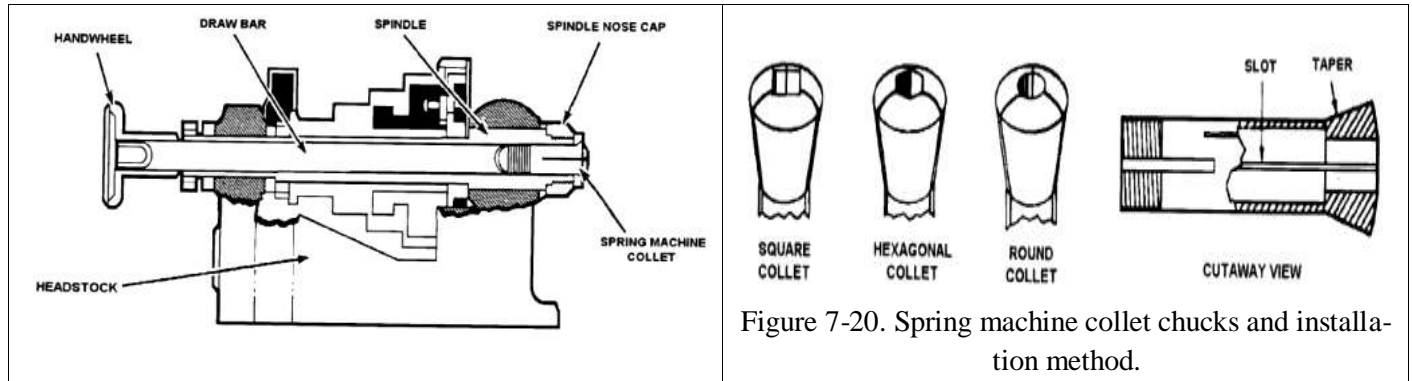

Figure 7-20. Spring machine collet chucks and installation method.
**The Spring Collet Chuck:** Is a thin metal bushing with an accurately machined bore and a tapered exterior, the most accurate means of holding small workpieces in the lathe. To grip the workpiece accurately, the collet must be no more than **0.005 inch larger or smaller** than the **diameter of the piece** to be chucked. For this reason, spring machine collets are available in increments of **1/64 inch**. For general purposes, the spring machine collets are limited in capacity to **1 1/8 inch** in diameter. (Figure 7-20).